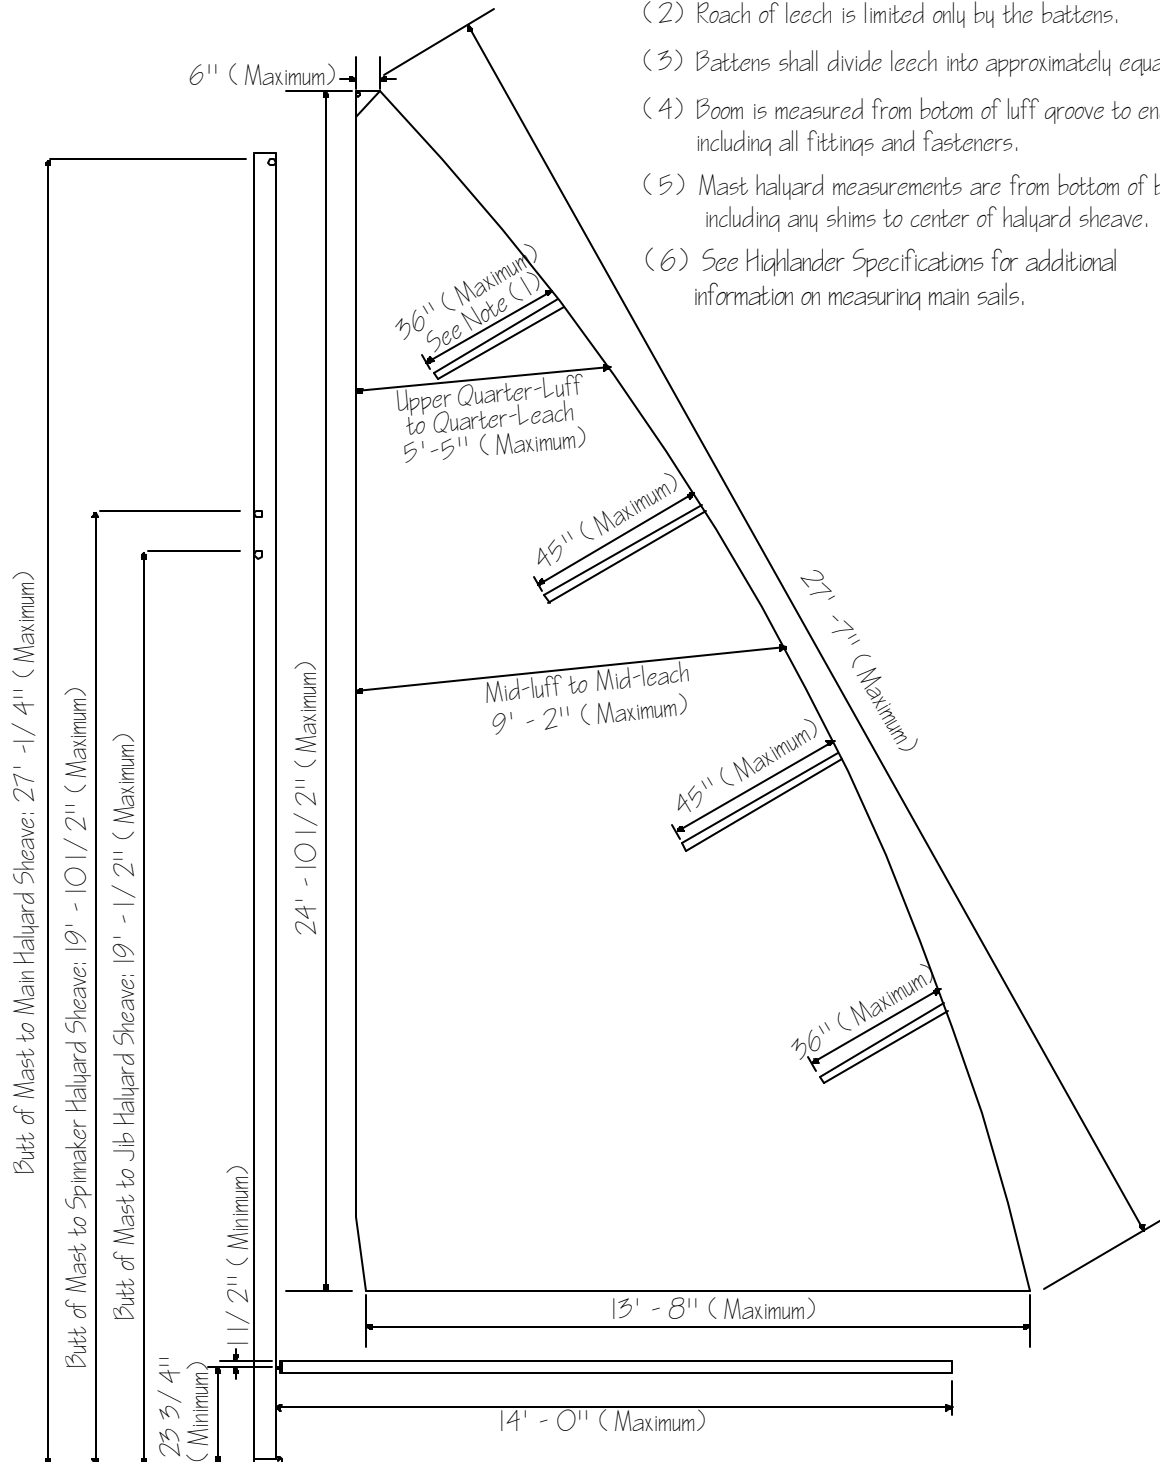
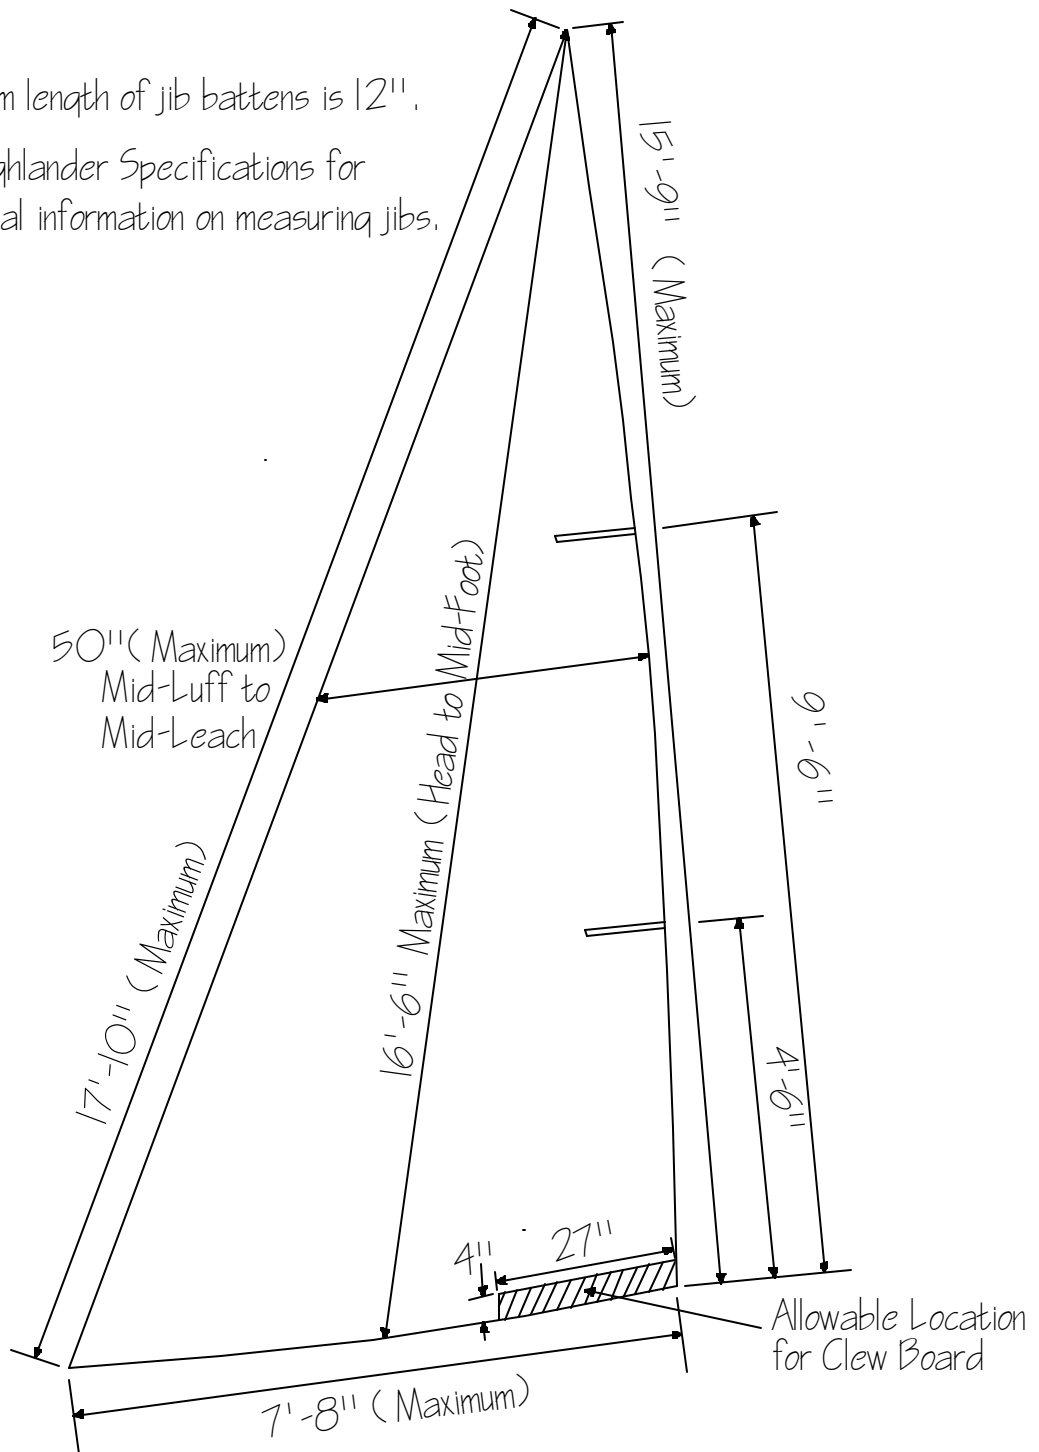
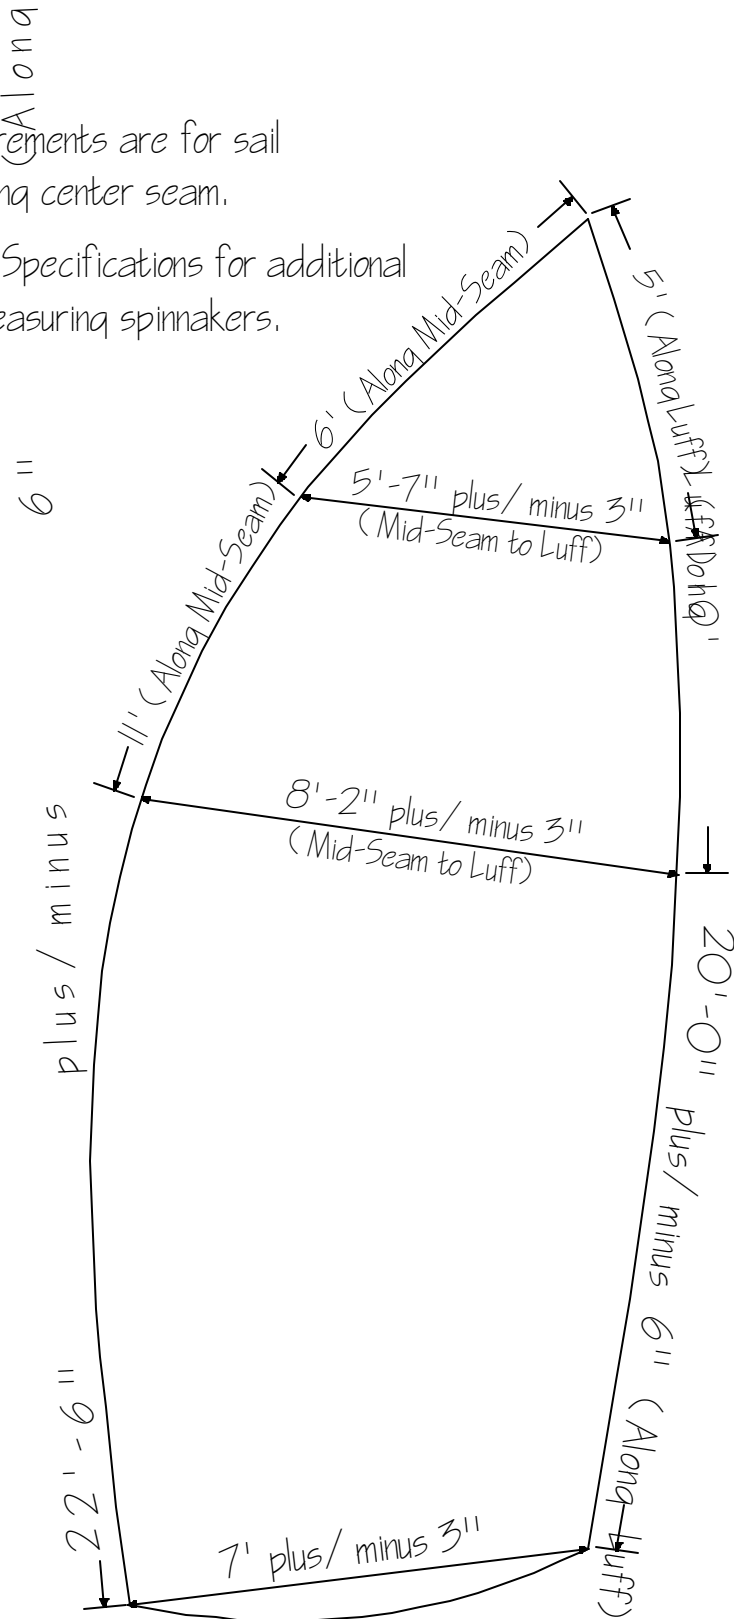

Figure 4. Mast Boom and Mainsail Measurements
Figure 5. Jib Measurements
Figure 6. Spinnaker Measurements
- iii All measurements shall be made with no tension is applied to the sail, but the cloth shall be smoothed out except that the luff and foot of the main and jib and the sides and foot of the spinnaker shall be measured under a five (5) pound tension.
- iii There are no minimum measurements. Maximum measurements are as shown on official drawings (Figure 4).
- iv Up to four battens as shown on the official drawings (Figure 4) are permitted. The use of a full-length upper batten on mainsails a minimum of three years old is permitted. The location and angle of the full-length batten shall be the same as that of the original batten. The full-length top batten pocket may be installed on the opposite side of the original pocket, but only one batten may be used at any given time. The full-length batten shall be installed in a manner that will not change the curvature of the sail, as manufactured.
- v Placement and size of windows are optional providing that the total area not exceed six (6) square feet.
- iii There are no minimum measurements. Maximum measurements are as shown on official drawings (Figure 5).
- iv Placement and size of windows are optional providing that the total area not exceed four (4) square feet.
- v Up to two battens as shown on the official drawings (Figure 5) are permitted.
- vi A clewboard of any material is permitted in the jib, which shall be located as shown on the official drawings (Figure 5).
- vii A minimum number of five (5) snaps or hanks equally spaced along 80 percent of the luff must attach the jib to the forestay.
- iii Dimensions and tolerances are as shown on the official drawings (Figure 6).